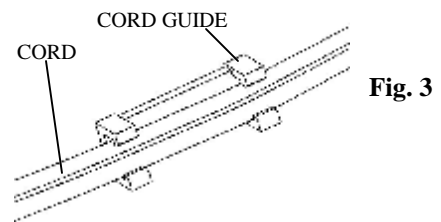
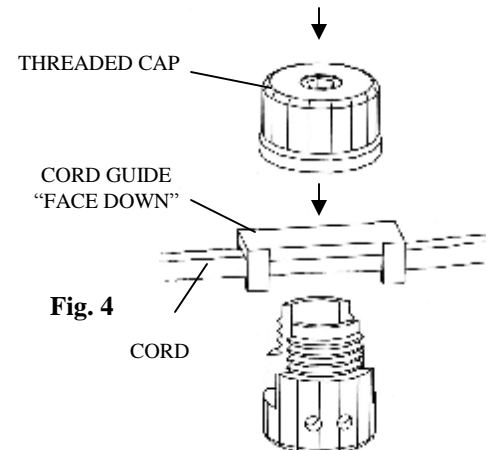

Fig. 3
Fig. 4
- B. For thinner cord - Fasten one of the cord guides around the cord. See Fig. 3. (Note: The cord guides are not the same. Each cord guide is different as they can accommodate a different sized cord. The installer must determine which cord guide to fasten to the cord.) Push the cord and the cord guide "face down" into the wire channel until each spike terminal pierces thru each wire of the cord. Replace the threaded cap. Be sure to secure the cap tightly. See Fig. 4.